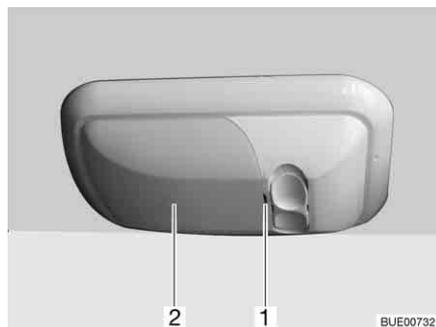

Fig. 227 Garage light
- Use a suitable tool (e.g. a screwdriver) to carefully lever out the cover (Fig. 227,2) at the notch (Fig. 227,1) and remove it.